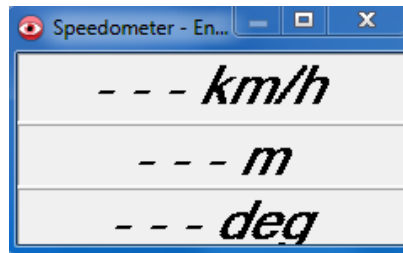
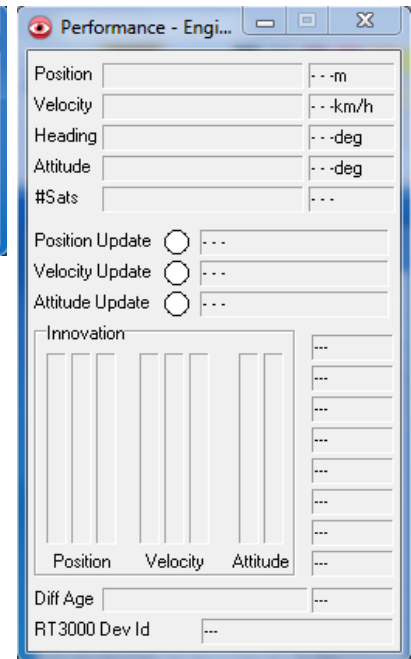

Figure 20. Speed Tab
Figure 21. Performance Tab
- Click on the "Speed" (Figure 20) and "Performance" (Figure 21) tabs